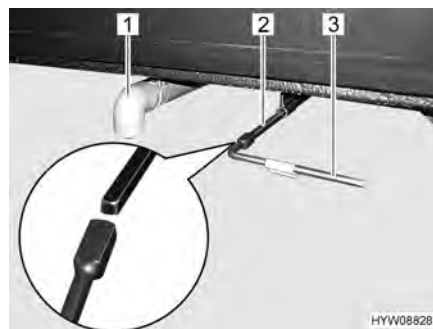

Fig. 103 Operating lever and drain pipe (waste water tank)
- Place the drain pipe (Fig. 103,1) directly above the disposal station or attach the waste water hose (special equipment) onto the drain pipe (Fig. 103,1).
- Open the drain cock. To do this, attach the supplied square spanner (Fig. Fig. 103,3) onto the square of the drain cock (Fig. 103,2).
- To do this, turn the square spanner (Fig. 103,3) a quarter turn anticlockwise. The waste water is drained.
- After the waste water has drained off: Close the drain cock again. To do this, turn the square spanner (Fig. 103,3) a quarter turn clockwise.
- Remove the square spanner (Fig. 103,3) and store it.